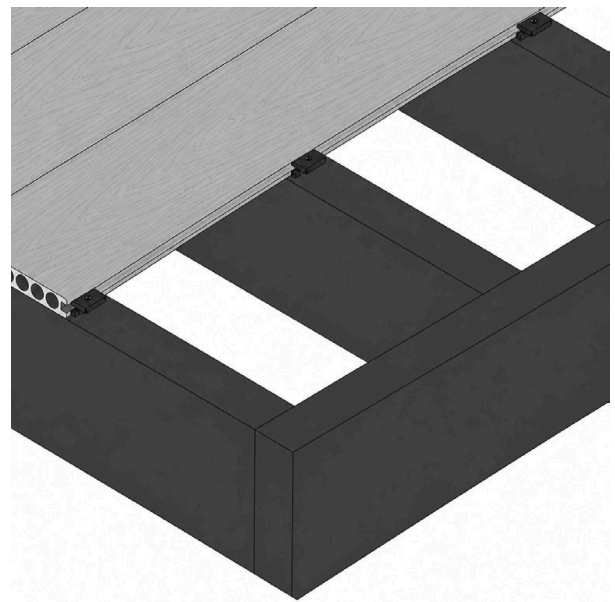

FIG. 7 - REPEAT UNTIL THE LAST TWO BOARDS REMAIN
- 06 Repeat steps 2–5 until you have reached the last 2 boards (fig. 7). The last board can be fixed in 1 of 2 ways, outlined in the next section.